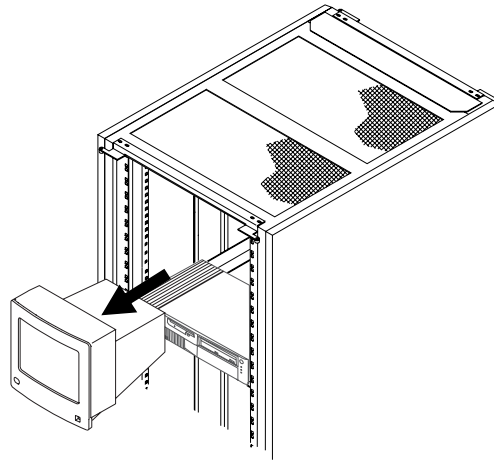

Figure 5-2. Display Removal
1. Disconnect the power cable of the display from the power source, and slide the display out of the rack (see Figure 5-2).